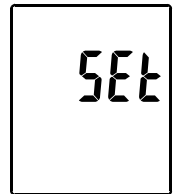

Fig.7
- (1) Turn off the unit.
- (2) Enter SETUP mode by pressing and holding  button and then press  power button to turn on the unit. "SEt" blinks on the LCD screen. (see Fig.7)
- (3) Press CLOCK ( button) to set clock.